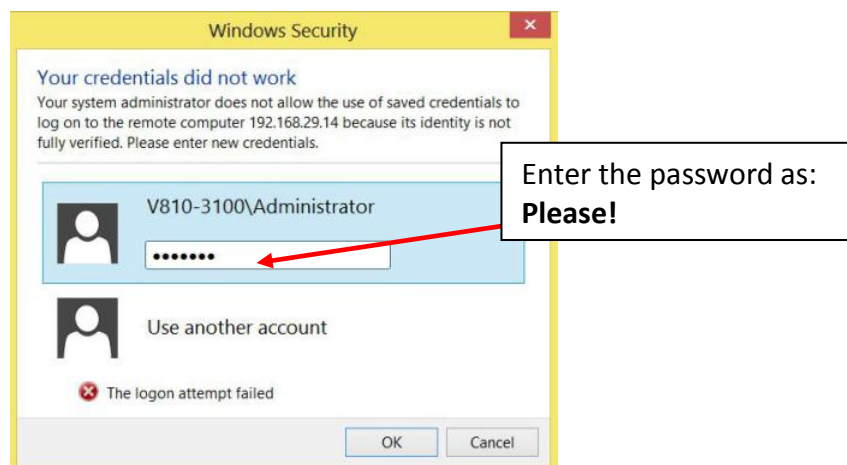

Figure 3 Password for Atom PC
3. Enter the password as "Please!" as shown in Figure 3.